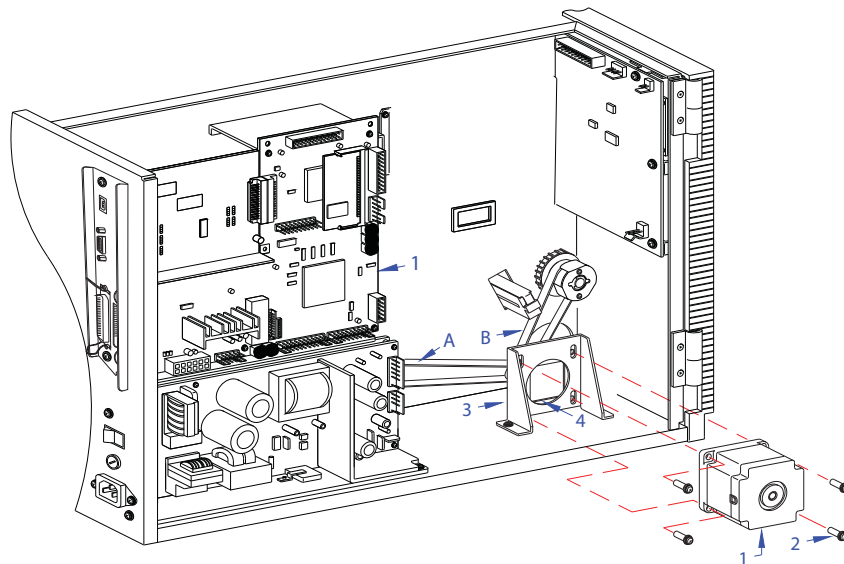

Figure 7-4, Drive Motor Replacement
- 3 Disconnect from the defective motor's wiring harness from main circuit board (1, Figure 7-4).
- 4 Remove four screws (2) securing defective drive motor (1) to motor bracket (3).
- 5 Apply timing belts (A) and (B) to the motor's spindle (not shown).
- 6 Secure replacement drive motor (1) to motor bracket (3) using four screws (2) and mounting plate (4).